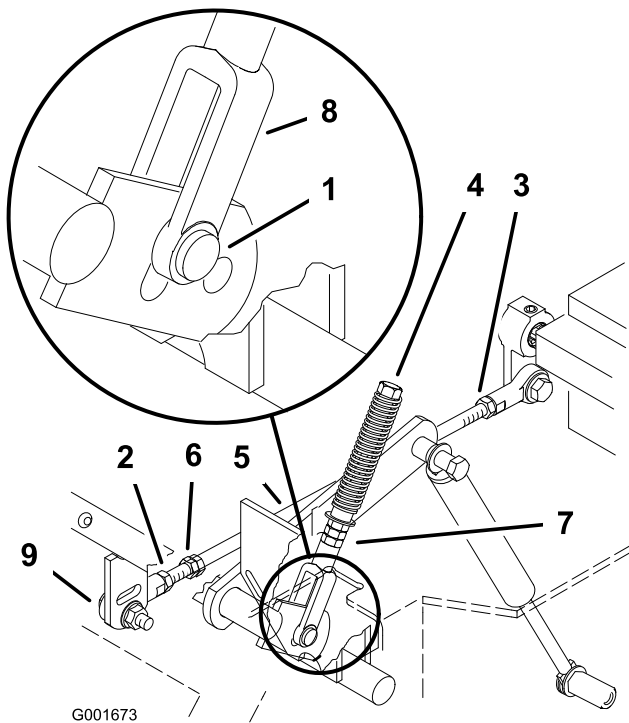

Figure 49
6. Pull the lever back until the clevis pin (on the arm below the pivot shaft) contacts the end of the slot (just beginning to put pressure on the spring) (Figure 49).
8. If adjustment is needed, loosen the nut and jam nut against the yoke (Figure 49).
10. Tighten the nut and jam nut (Figure 49).